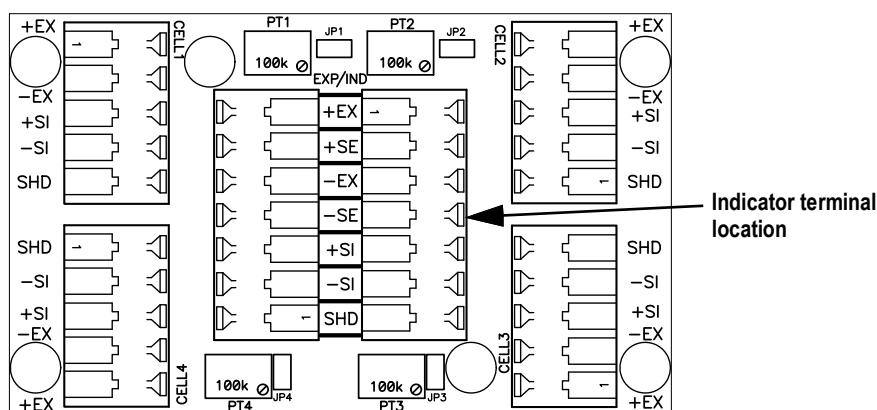

Figure 2-2. Junction Box Wiring Diagram
5. Connect the wires to the indicator terminal (Figure 2-2) as shown in Table 2-1.